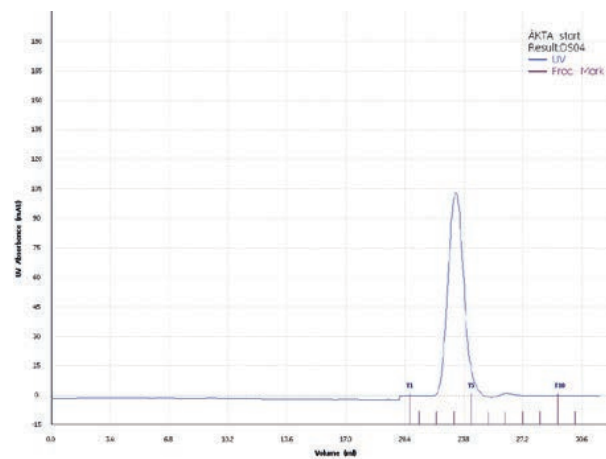

Fig 14. Chromatogram (.bmp image) of desalting on ÄKTA start.
- 1 Insert the USB memory stick into a computer to open the chromatography result file (DS01) in any image viewing software (Microsoft® picture manager/ paint etc.). A representative chromatogram for the chromatography run is shown in Fig. 14, on page 4.